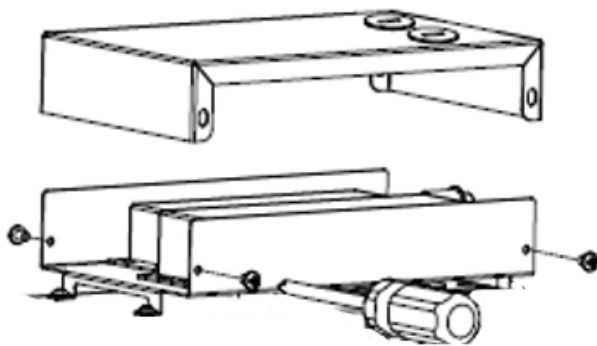

Fig. 3
3. Loosen the 4 screws on the sides of the emergency LED driver junction box and remove the cover (Fig. 3).